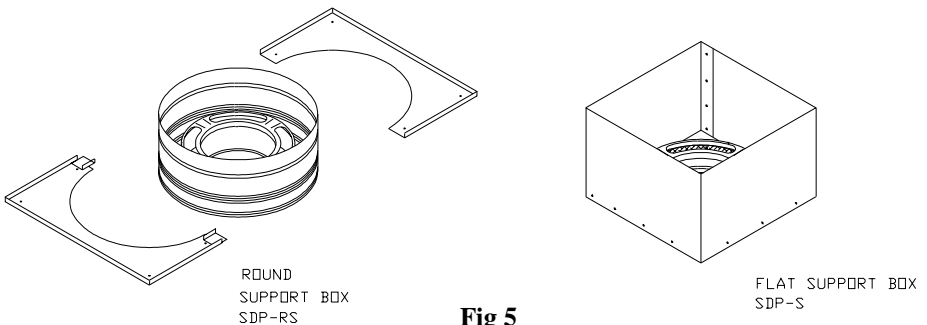
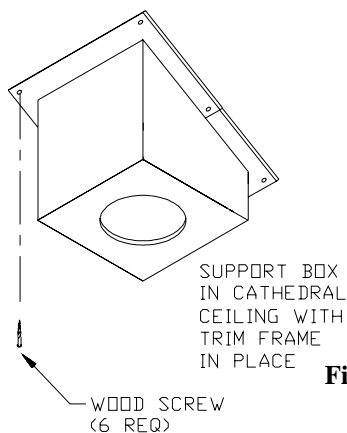

Fig 5
Fig 6
3. Install Support: Slip the **Support Box**, (Figure 5), into the framed opening. It must extend at least 2 inches below the finished ceiling. Level the **Square Support Box** and nail it to the framing using at least two 8-penny nails per side. The two **Trim Frames** are positioned as shown, and screwed through the ceiling and into the framing members with (6) 1-1/4 inch long round-head wood screws. (Figure 6). The bottom of the **Round Support** must also be at least 2 inches below the finished ceiling. Trim for the **Support Boxes** is “U-shaped”. The trim pieces are adjusted to accommodate the **Square Support Box**, and screwed into the framing, using
wood screws. A completed **Square Support Box** installed in a cathedral ceiling with the “U-shaped” trim is also shown in Figure 6. Trim kits are available in brass, antique brass, and chrome, to enhance the appearance of the various **Support Boxes** and **Trim Frames**. Where the chimney passes through additional floors and ceilings, install **Firestop Radiation Shields**. Where the chimney passes through an attic, **Firestop Radiation Shields** and **Insulation Shields** must be installed.